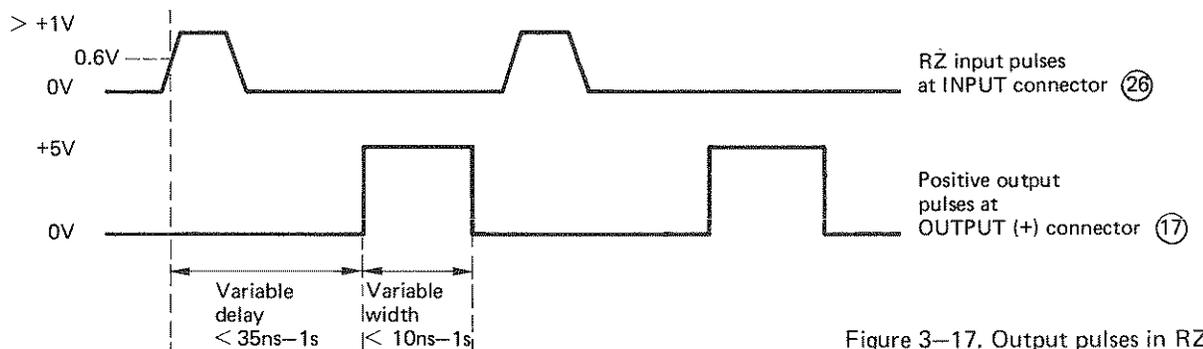

Figure 3-17. Output pulses in RZ mode
a. Connect the external signal to the INPUT connector (26) on the rear panel of the 8013B.
b. Set the Mode Selector switch (25) to RZ
3-43 The output pulses should appear at the OUTPUT (+) connector (17) as shown in Figure 3-17.